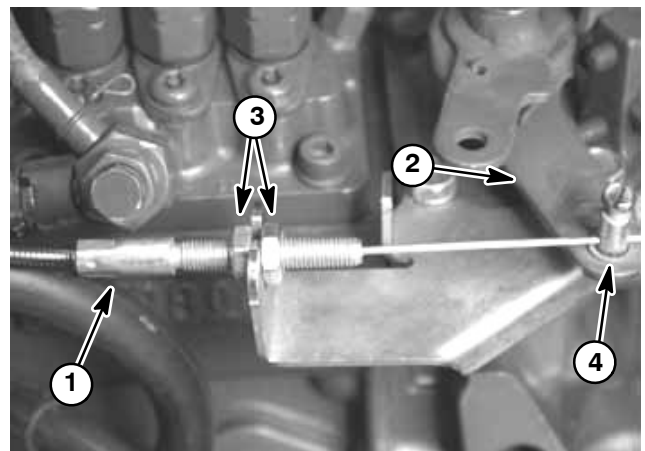

Figure 3
3. If necessary, throttle control can be adjusted by loosening cable jam nuts and repositioning control cable until speed control lever contacts high speed screw when the throttle control lever is in the **FAST** position (Fig. 3). Tighten cable jam nuts after adjustment has been completed.